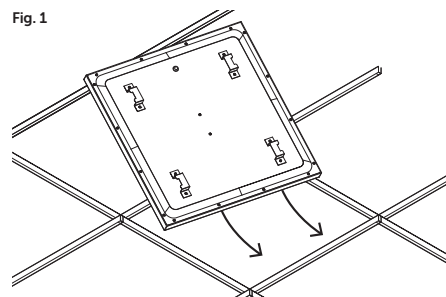

Fig. 2
- Assemble the H-bracket as indicated in Fig. 2.